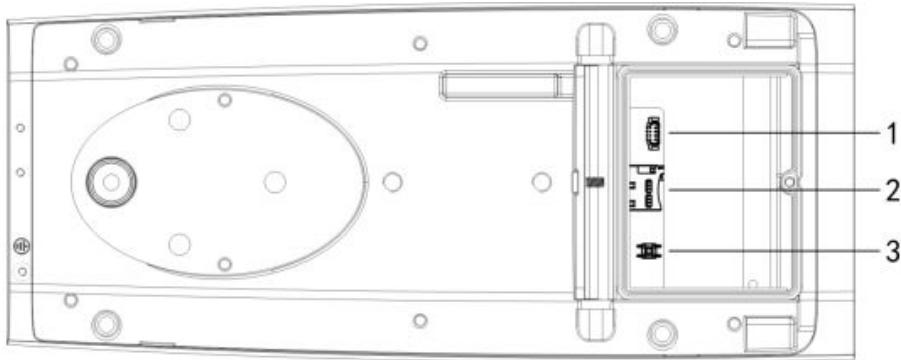

Figure 2-6
Step 2 Slightly press the RESET button for 15-30 seconds to complete the reset function. (#3 on Figure 2-6). The camera will reboot when the reset process is complete.
Step 3 (If installing SD Card) Adjust the Micro SD Card to a proper direction shown in as #2 on Figure 2-6. Close the access panel, tighten down the locking screw and reinstall camera.